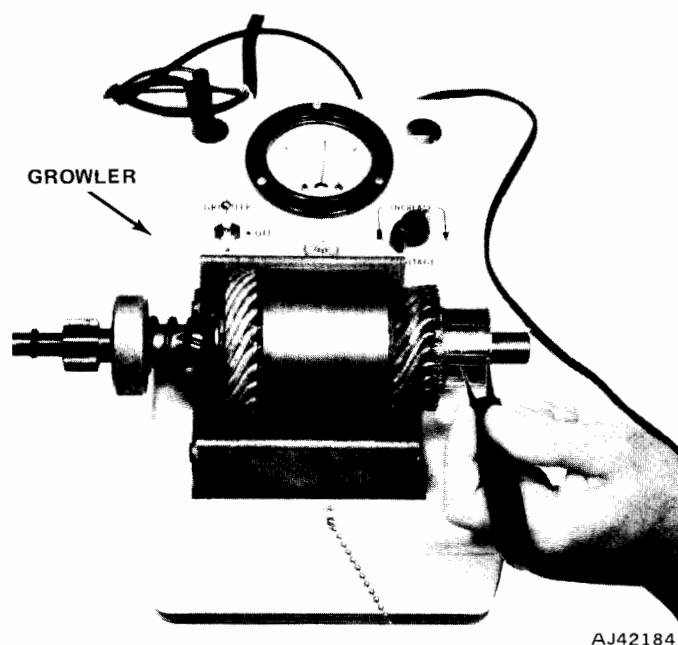

Fig. 3-48 Armature Balance Test
- (1) Place armature in growler jaws.
- (2) Turn power switch to growler position.
- (3) Place contact fingers of meter test cable across adjacent commutator bars at side of commutator.
- (4) Adjust voltage control until needle is at highest reading on scale.
- (5) Test each commutator bar with adjacent bar until all bars have been checked. A reading of zero indicates an open circuit in that particular pair (fig. 3-48).